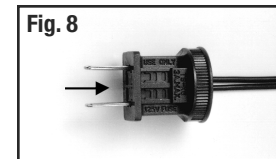

Fig. 8
4. Close fuse compartment by sliding access cover back in towards cord side of plug (Figure 8).